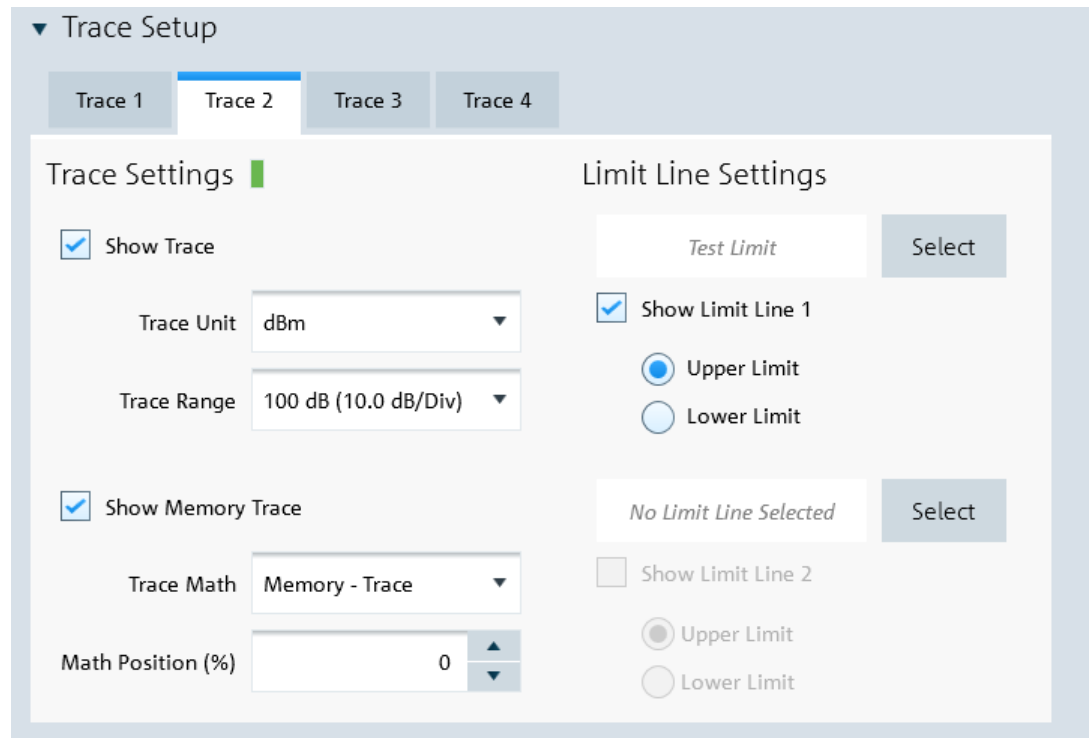

Figure 5-2: Trace setup
- Each trace is represented with a different trace color. If there is more than one trace in the same trace window, you can go to the individual trace tab to disable or enable the "Show Trace" checkbox to set the trace display. See Figure 5-2.